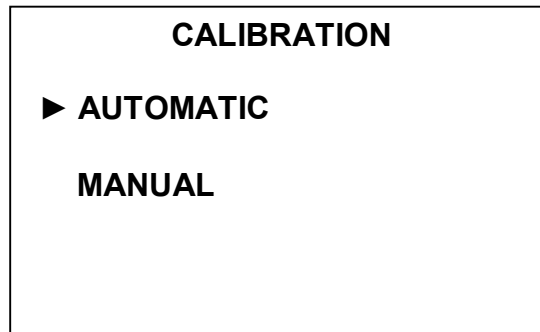

Fig. 2.8
- 1 Press the key . The display shown in Fig. 2.8 shall come up.